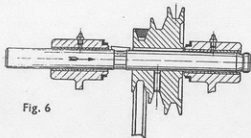

Fig. 6
*c* Pass the countershaft into the vee cone pulley until the woodruff key seat approaches the pulley bore. Insert the woodruff key into the countershaft and engage with the keyway of the cone pulley. See Fig. 6.